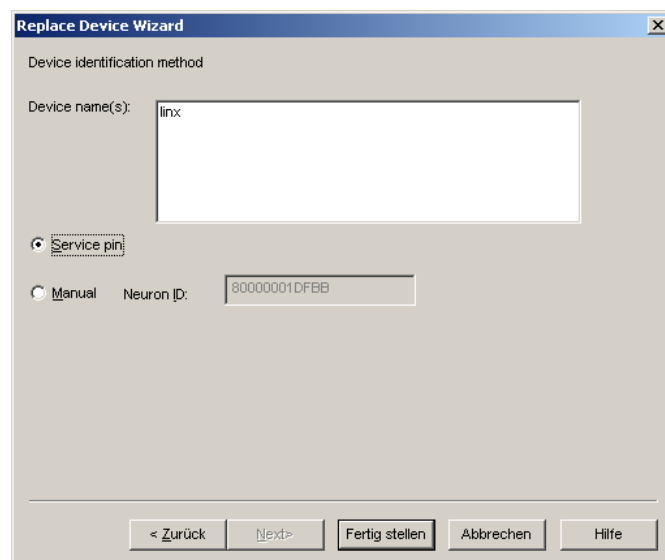

Figure 118: Select Service Pin and click Finish.
6. Select the **Service pin** method and click on **Finish** as shown in Figure 118.